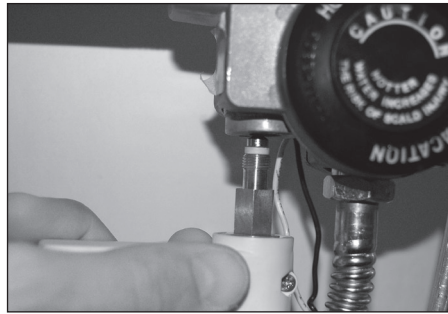

Figure 9
2. Install the Power Cutout Module supplied with the Water Detector Shutoff to the gas valve. **Figure 9**